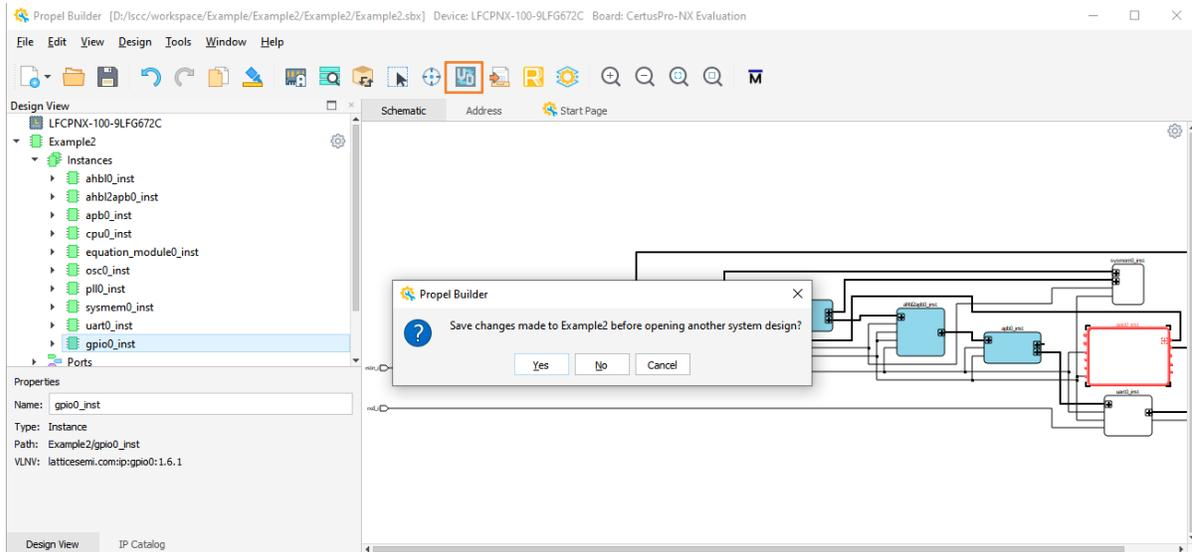

Figure 2.117. SoC Design Project
- From design project window, click **V/D button** . A dialog box opens prompting you to save the changes, if the current design project is not saved yet (Figure 2.117).
- SoC design project is called **\*\*\*.sbx**. Verification project is called **\*\*\*\_v.sbx** (Figure 2.117).